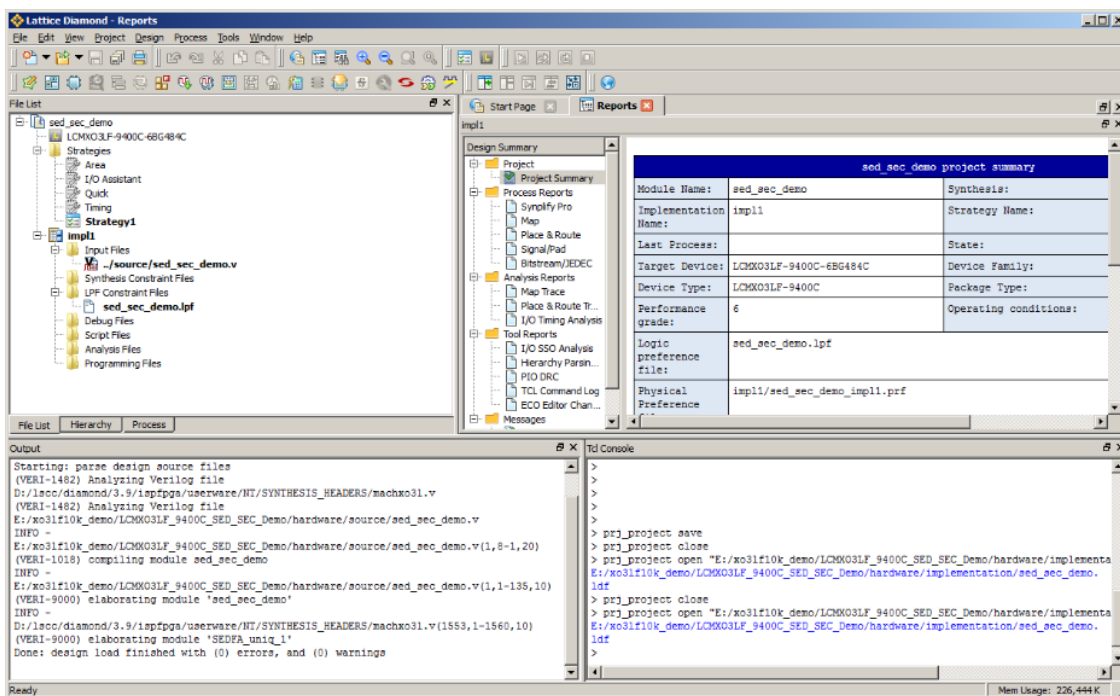

Figure 7.2. Opened Project
2. The opened project is shown in Figure 7.2.